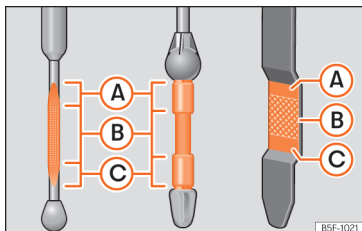

Fig. 288 Engine oil dipstick.
- Then pull it out once more and check the oil level » **Fig. 288**. Top up with engine oil if necessary.
- When the oil level reaches at least zone **B** » **Fig. 288 B**, unscrew the engine oil filler cap carefully » **ⓘ**.
If the oil level is above area »» Fig. 288 (A), do not start the engine. This could result in damage to the engine and catalytic converter. Contact a specialised workshop.
The oil level must never be above zone »» Fig. 288 (A). Otherwise oil can be drawn in through the crankcase breather and leak into the atmosphere via the exhaust system.